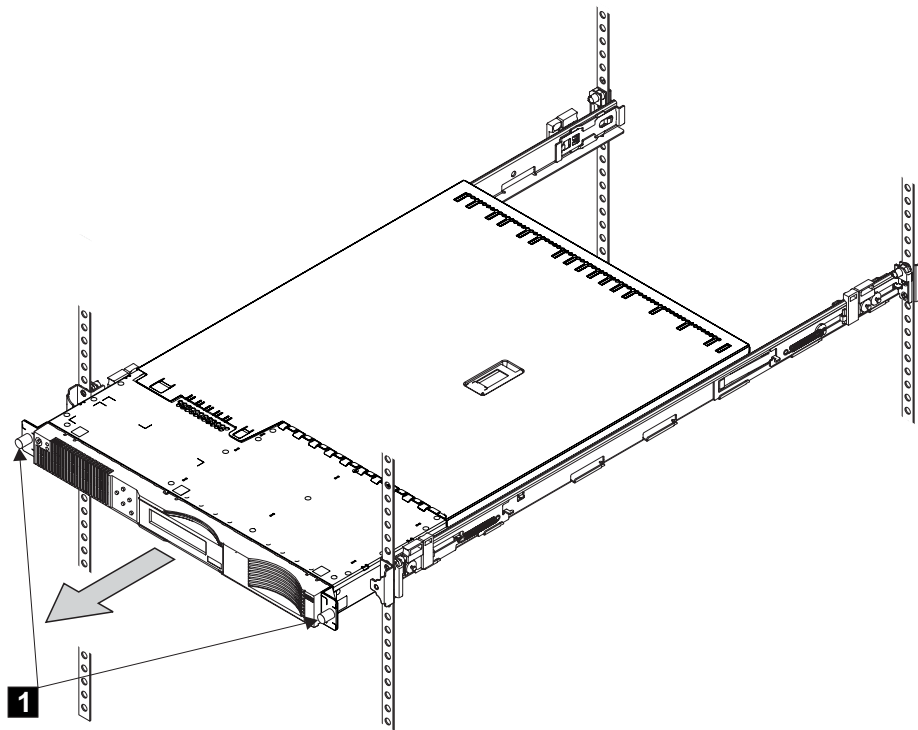

Figure 100. Unscrewing the front screws
4. For the SAN Volume Controller 2145-8F2, unlatch the two latches on the front of the rack. For the SAN Volume Controller 2145-4F2, unscrew the two front screws **1** as seen in Figure 100.